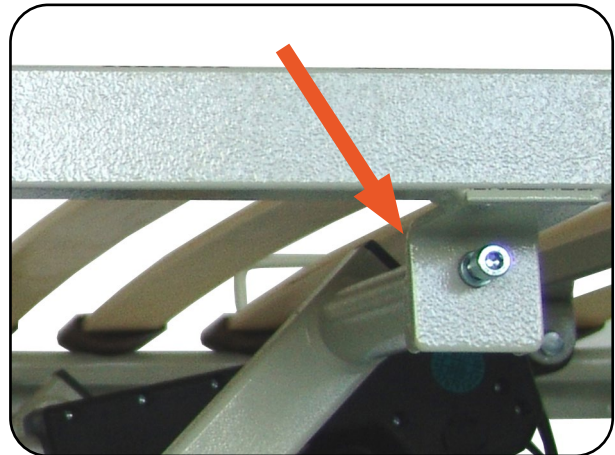

Fig. 6.1.02 – Support mountings for head support
2. Remove the two M8 x 16 Allen bolts with spring washer on the side of the support mountings for the head support (Fig. 6.1.02).
4. To fasten the head support in place, tightly screw in the two M8 x 16 Allen bolts with spring washer into the support lugs on the side (Fig. 6.1.02).